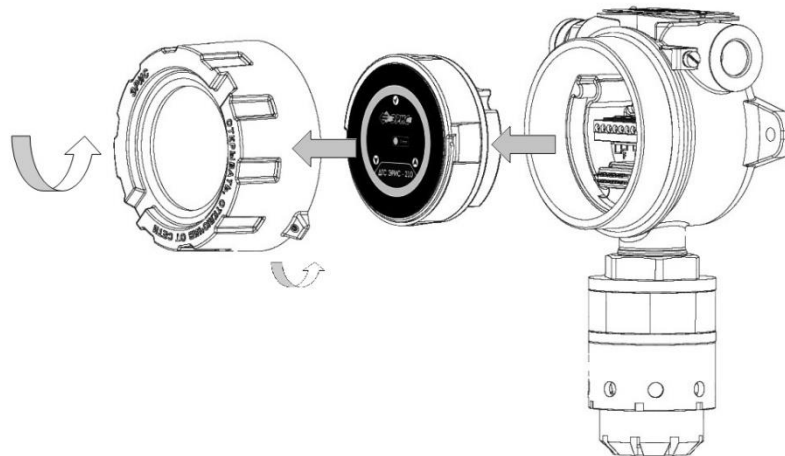

Figure 22 - Gas detector disassembling diagram
1) Screw off the lock screw on the upper cover of the gas detector cover (Figure 22). Screw off the cover. Remove the electronic module from connectors by pulling horizontally the semicircular handle "acr" (do not rotate).